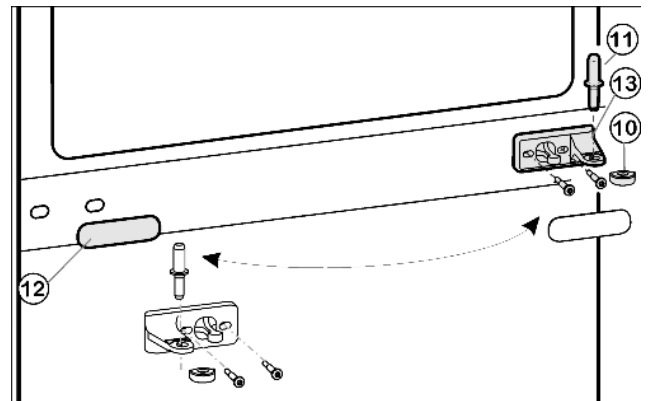
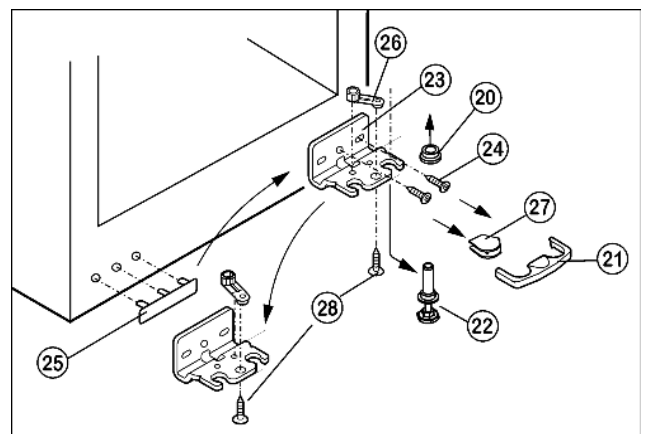

Fig. 5
Fig. 6
- ▶ Draw the middle bearing pin Fig. 5 (11) out of the turn hinge and lower door.
- ▶ Remove the plastic cap Fig. 5 (10).
- ▶ Detach the middle turn hinge Fig. 5 (13).
- ▶ Carefully detach the cover panel Fig. 5 (12).
- ▶ Turn the middle turn hinge Fig. 5 (13) 180° and transfer it to the new hinge side.
- ▶ Turn the cover panel Fig. 5 (12) through 180° and snap it into place again on the new handle side.
- ▶ Draw the safety lock Fig. 6 (21).
- ▶ Remove the cover *Fig. 6 (27)*.*
- ▶ Fully retract the adjustable-height foot *Fig. 6 (22)*.
- ▶ Pull out the bearing pin *Fig. 6 (22)* downwards and forwards. In so doing, pay attention to the hinge bush *Fig. 6 (20)*.
- ▶ Unscrew the turn hinge *Fig. 6 (23)* (2 Torx 25) *Fig. 6 (24)*.
- ▶ Unscrew the bearing part *Fig. 6 (26)* (1 Torx 25), *Fig. 6 (28)*.
- ▶ Carefully lift off and transfer the cover *Fig. 6 (25)* on the handle side.
- ▶ Screw down the turn hinge *Fig. 6 (23)* on the new hinge side, possibly with the aid of a cordless screwdriver, through the outer oblong hole and round hole.
- ▶ Place the cover *Fig. 6 (27)* on the opposite side.*
- ▶ The safety lock (21) has to engage with the turn hinge at the side so that the bearing pin and therefore the door are secured.
- ▶ Snap the safety lock (21) onto the turn hinge again.
- ▶ Put on the hinge bush *Fig. 6 (20)*.
- ▶ Place the lower door from above onto the lower bearing pin *Fig. 6 (22)*.
- ▶ Place the plastic cap *Fig. 5 (10)* back onto the middle turn hinge *Fig. 5 (13)*.
- ▶ Place the middle bearing pin *Fig. 5 (11)* in the lower door, on the new hinge side, through the middle turn hinge *Fig. 5 (13)*.
- ▶ Place the upper door on the middle bearing pin *Fig. 5 (11)*.
- ▶ Transfer the middle screw of the lower turn hinge *Fig. 6 (23)* into the free oblong hole.
- ▶ If necessary, align the doors to the appliance housing by way of the two oblong holes in the lower turn hinge *Fig. 6 (23)* and middle turn hinge *Fig. 5 (13)*.